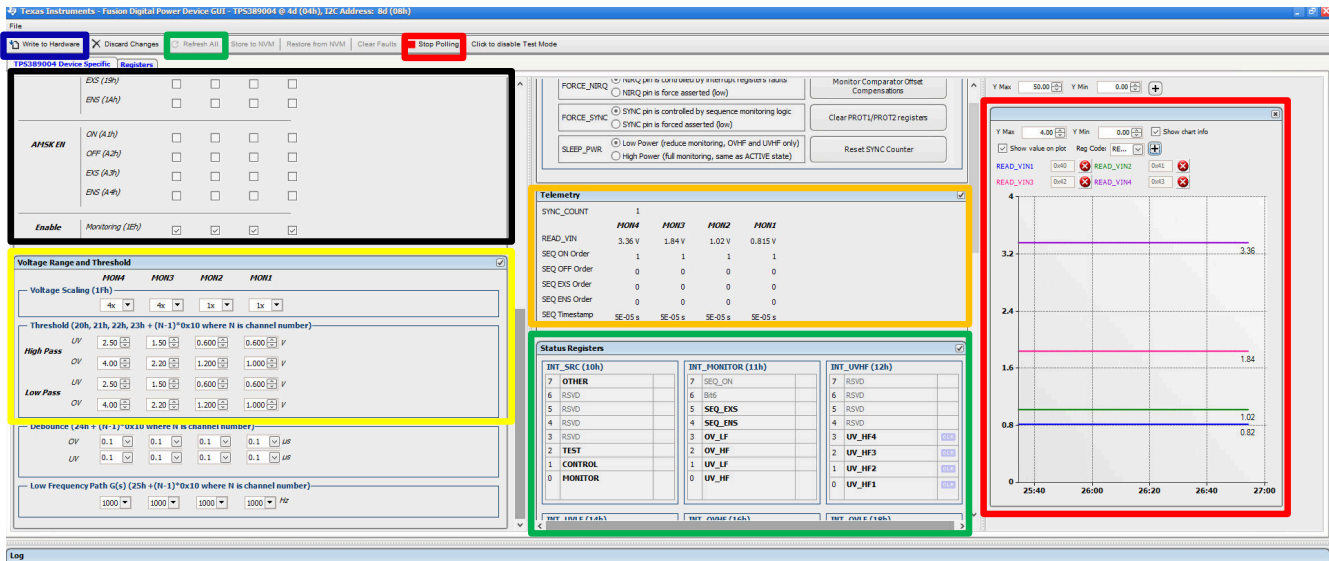

Figure 4-17. TPS389006Q1EVM GUI Setup for Monitoring Four Voltage Supply Rails
9. Scroll to the bottom of the *Interrupt Enable* sub-window and enable all four monitoring inputs by clicking the empty boxes. The GUI image, Figure 4-17 below, shows all the monitoring inputs being selected in the highlighted *black-box*.
10. In the *Voltage Range and Threshold* sub-window, enter the undervoltage (UV) and overvoltage (OV) threshold values for the monitoring inputs. One thing to note, any monitoring inputs that are higher than 1.5V needs to select *4x* in the *Voltage Scaling (1Fh)* field. The GUI image below, highlighted by a *yellow-box*, shows is described above.
14. Steps 8 through 13 refers to Figure 4-17 below.